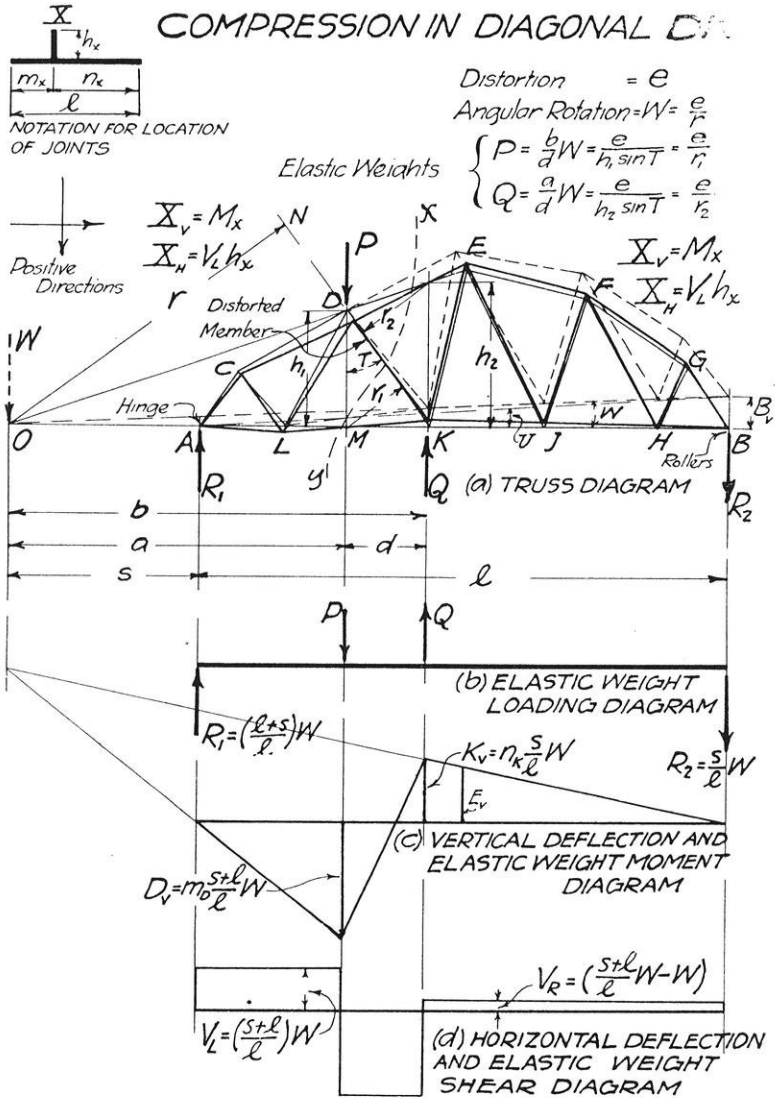
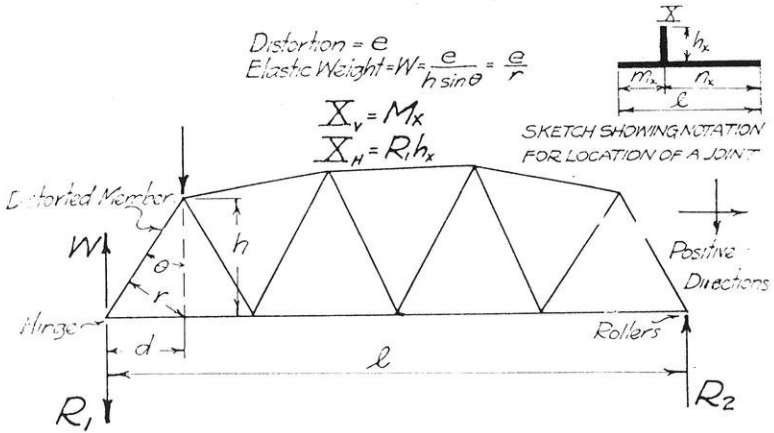
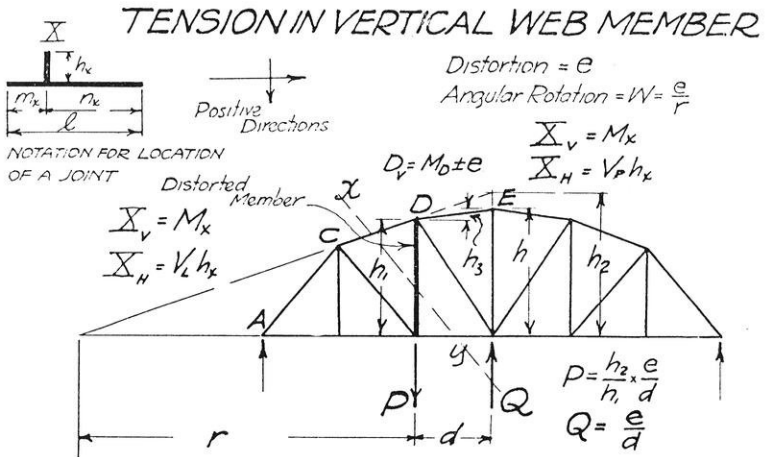
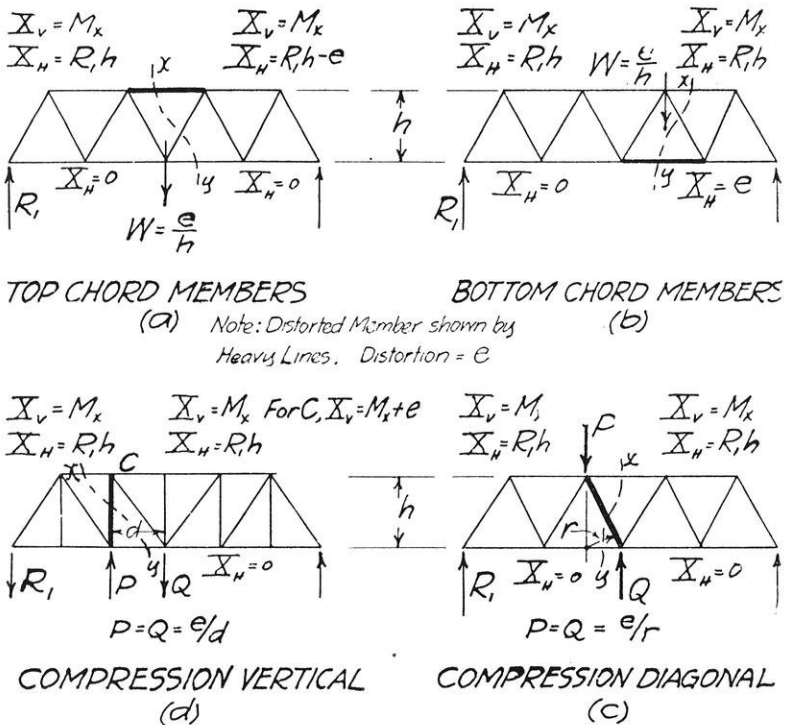

FIG. 6
FIG. 7
FIG. 8
FIG. 9
The deflection of joints will now be determined for distortion of web members. Fig. 6 shows a typical truss in which it is assumed that inclined web member DK is shortened an amount  $e$  due to a compressive stress. According to the second principle of kinematics given below, the center of rotation for the first stage is located at the moment center for the distorted member. This center is located at the intersection of the chord members cut by the section  $x-y$ , that is, at point O, a distance  $s$  to the left of joint A, Fig. 6(a). The angular rotation is given as the distortion of the member divided by its moment lever arm. This arm is the perpendicular distance from O to member DK produced. It is indicated by  $r$  of Fig. 6(a). Then,
For joint L, the vertical deflection is similar to eq. (16), and the horizontal deflection is zero. Values given by eqs. (16) and (17) are plotted on Figs. 6 (c) and (d).
In eq. (18) the minus sign indicates that this joint deflects upward, as shown by the fact that it is plotted above the horizontal axis in Fig. 6 (c).
These values, together with similar values for other joints, are plotted in Figs. 6 (c) and (d) to form the vertical and horizontal deflection diagrams.
On comparing these diagrams with those of Fig. 2, it will be noted that they are identical in form and in the values of the ordinates. The required elastic loading for deformations due to web members is then of the form shown on Fig. 2 and repeated on Fig. 6(b).
In the cases already considered, the angular rotation  $W$  was applied as a load at the moment center for the distorted member. If this procedure is to be followed in the case under consideration, a load  $W$  must be applied at point  $O$ , as shown by the dotted arrow in Fig. 6 (a). However, it is more convenient to deal with loads applied at points on the span, as for example  $P$  and  $Q$  of Fig. 6 (a). In order that this substitution may be made,  $P$  and  $Q$  must answer the following condition: (a)  $P - Q = W$ , and (b) the reactions  $R_1$  and  $R_2$  must be the same for  $P$  and  $Q$  as for  $W$ .
When the stresses in the distorted diagonal are compressive, the elastic loads are to be directed as shown in Fig. 6 (a). It will be noted that they are so placed that, if acting on member  $DK$  as a free body, the resulting stress would be compressive, giving a stress of the same character as that causing the distortion. If  $DK$  was in tension, the direction of  $P$  and  $Q$  would have to be reversed.
The values of  $P$  and  $Q$  given in eqs. (22) and (23) can be written in a form somewhat more convenient for calculation due to certain relations existing between the similar triangles  $ONK$  and  $DMK$  of Fig. 6(a). We then have,
All values involved are shown on Fig. 6(a).
The horizontal deflection of any joint is equal to the shear at that joint due to the above elastic weights, multiplied by the height of the joint in question above a line connecting the points of support at the ends of the truss. These values are shown in symbolic form on Fig. 6 (a).
The end post member is a special case of an inclined web member. Fig. 7 shows a typical truss with the elastic weights in position. In this case the two loads are equal, and have the values indicated in the figure. General values in terms of the notation already used are given for vertical and horizontal deflection of joints. Positive moments indicate downward deflection, and positive shears indicate deflection to the right.
In Fig. 8 is shown a truss with vertical web members. Consider the deflection of the truss due to the deformation of a vertical member. As the distorted member is vertical, it is impossible to apply the elastic weights as for a diagonal, as shown in Fig. 6. By a process exactly the same as that used for the case of Fig. 6 it can be shown that the elastic weights are to be arranged as shown in Fig. 8. General values for vertical and horizontal deflection are indicated in the figure. It will be noted that the vertical deflection of the upper end of the distorted vertical is given by  $D_v = M_x + e$ , and that the corresponding value for the lower end of the member is  $H_v = M_x$ . In general, for members whose stress is determined by conditions on a section such as  $x-y$  of Fig. 8, it will be found best to determine the deflection of the joint at the lower end of the distorted member, as given by the equation  $H_v = M_x$ . The deflection of the joint at the upper end of the distorted member can be determined from that at the lower end by adding or subtracting the distortion of the vertical member, depending upon whether it is compression or tension. For a joint such as K at the foot of the vertical CK, it is best to determine the vertical deflection of joint C and then add  $e$ , the distortion of CK, in order to determine the vertical deflection of joint K. Horizontal deflections for these joints are determined by the methods given for the truss of Fig. 6.
In a truss with a curved top chord, such as shown in Fig. 8, distortion of the center vertical EF causes deflection of all of the joints. For a truss which is symmetrical about the center line, the deflection of the joints can be determined by applying at joint F a downward elastic weight  $W = \frac{2h^2}{hd} e$ . All terms are as shown on Fig. 8. The deflection of the two halves of the truss are equal for the conditions shown in Fig. 8. For vertical deflections,  $X_v = M_x$  for all joints except E, for which  $E_v = M_x - e$ . Horizontal deflections are given by  $X_h = V_1 h_x$ , except for joint E, where  $E_h = 0$ .
eq. (24) and (25), are equal, for it is evident from Fig. 6(a) that  $r_1 = r_2$  for parallel chord trusses. Similar conditions hold for the truss of Fig. 8.
Horizontal deflection formulas and methods of calculation are somewhat simpler than those for curved chord trusses, due to the fact that the height of the truss is uniform. These values are shown on Fig. 9. The values shown on Fig. 9 (a) can be obtained directly from those given on Fig. 4 (a). Thus from Fig. 4 (a), the horizontal deflection of joints to the left of section  $x-y$  is given by the general term  $X_h = V_l h_x$ . In Fig. 9 (a),  $h_x = h$ , the height of the truss, and  $V_l = R_l$ , the left reaction due to the elastic weights. Hence for upper chord points,  $X_h = R_l h$ . Since  $h_x = 0$  for lower chord joints, the horizontal deflection for these points is zero, which is expressed by the general formula  $X_h = 0$ . To the right of section  $x-y$  of Fig. 4 (a), horizontal deflections are given by the general formula  $X_h = V_r h_x$ . For the conditions shown on Fig. 9 (a),  $V_r = R_l h - W h$ . But  $W = e/h$ . Therefore  $X_h = V_r h_x = R_l h - e$ . For lower chord joints,  $h_x = 0$ , and  $X_h = 0$ . These values are shown on Fig. 9 (a).
By similar methods, the values shown on Fig. 9 (c) are obtained from Fig. 6; and those on Fig. 9 (d) are obtained from Fig. 8. End post values for horizontal chord trusses are the same as shown on Fig. 7 for the curved chord truss.
The discussion given above shows that the deflection of any top chord joint of a curved chord truss can be expressed in the form  $X_h = V_r h_x$ . In this expression  $V_r$  is the shear to the right of the panel containing the distorted member. This shear can not be obtained directly from the loads given on Fig. B, or from the shear values given in Table C. A study of Fig. 6 and the general formulas derived therefrom will show that the desired value of  $V_r$  for any panel can be obtained from the shear in that panel by subtracting the value of  $Q$  or  $P$  for the right end of the web member in the panel in question. For members to the left of the truss center, use values of  $Q$ , and for members to the right use values of  $P$ .